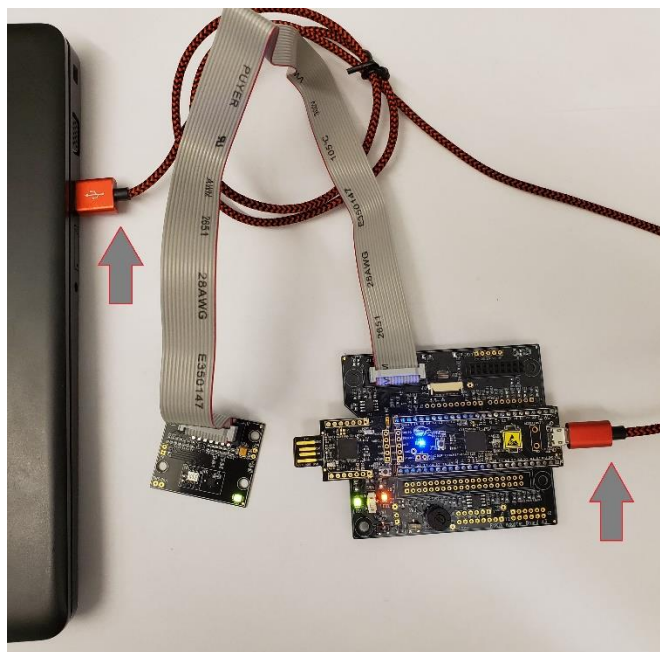

Figure 13. CY8CKIT-059 connected to PC (connection to the evaluation board is optional in this step)
- Connect the Cypress CY8CKIT-059 Prototypic Kit to a computer using the provided microUSB cable (Figure 13).
- ✓ Connect the RoKiX Development kit to the PC with the provided micro-USB cable (Figure 13).